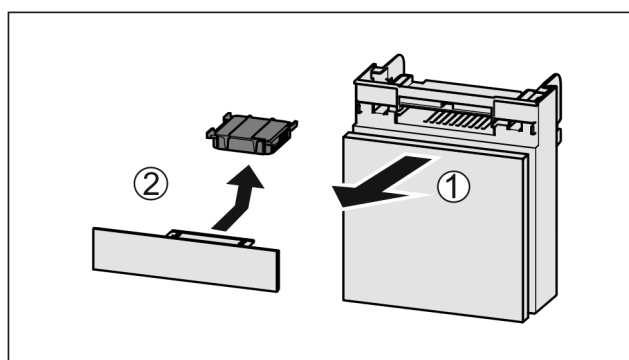

Fig. 101
- Pull out the compartment Fig. 101 (1).
- Remove the carbon filter Fig. 101 (2).